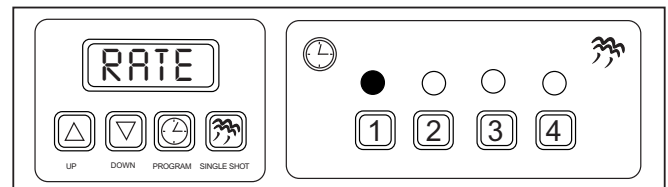

Figure 5. RATE Mode on Menu 1
RATE (Shot Interval Time) is the time set between each shot of steam during a complete cycle (Figure 5).
6. While in Program mode (press the **PROGRAM** button if not in this mode), press both the **UP** and **DOWN ARROW** buttons simultaneously. RATE will appear in the display for a moment (Figure 5).